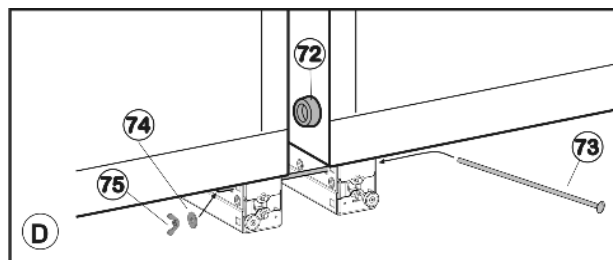

Fig. 54
- Insert long carriage bolt Fig. 54 (73).
- Push washer Fig. 54 (74) and nut Fig. 54 (75) onto the screw. Tighten nut until the spacer Fig. 54 (72) is touching the opposite side wall.